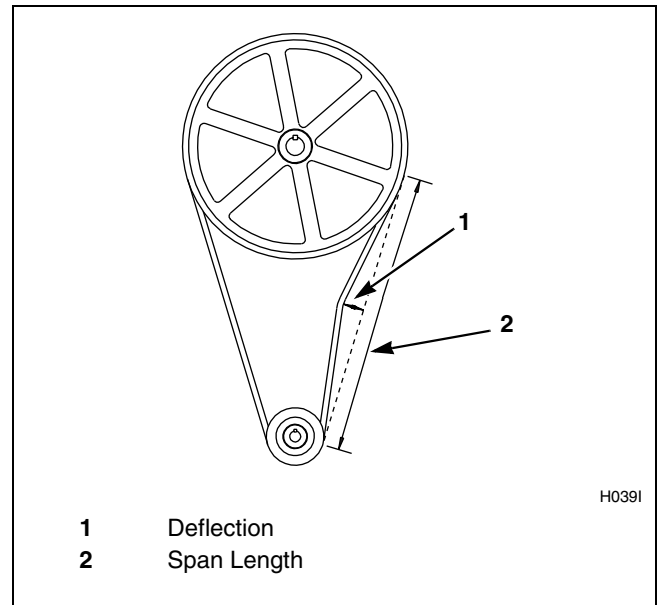

Figure 11
- d. **For variable-speed models only**, verify that V-belts are properly tensioned by applying a set force to the belt and measuring the deflection to determine the belt tension. Refer to *Table 6* for the acceptable belt tension ranges. Belt tension measurements should be taken as close to the center of the belt span as possible. Refer to *Figure 11*.